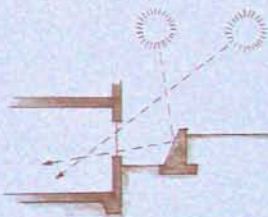

Figure 10
- To light a basement, consider excavating a window well (see figure 10).